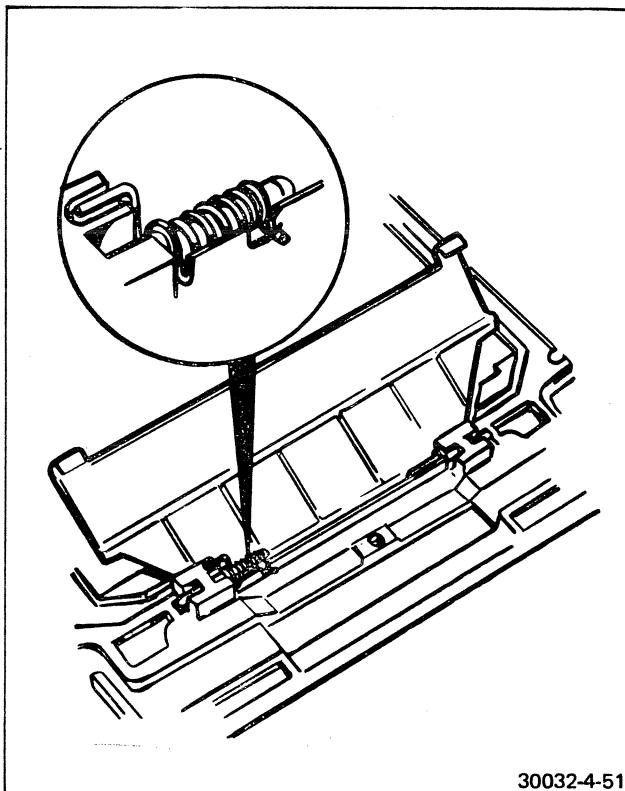

FIGURE 4-51 BAFFLE HINGE SPRING
5. Refer to Figure 4-51. Install the spring on the right-hinge pin.